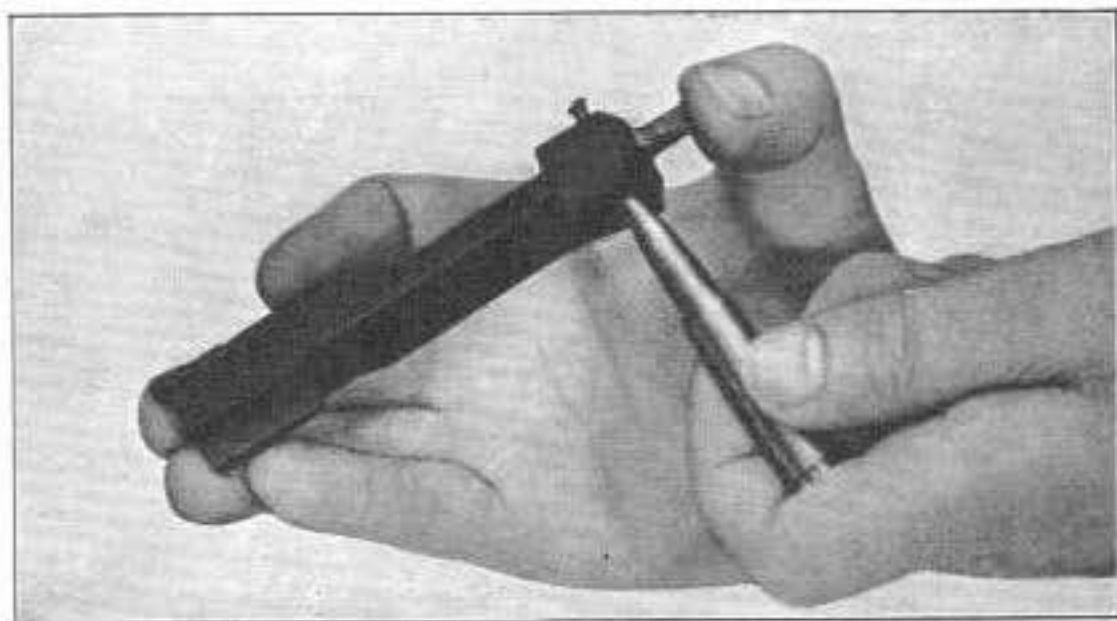

Fig. 40
d) **To remove the firing pin**, press on the rear end of the firing pin, push out the retaining pin; if the pin does not fall out easily, use the nose of a cartridge (fig. 40).